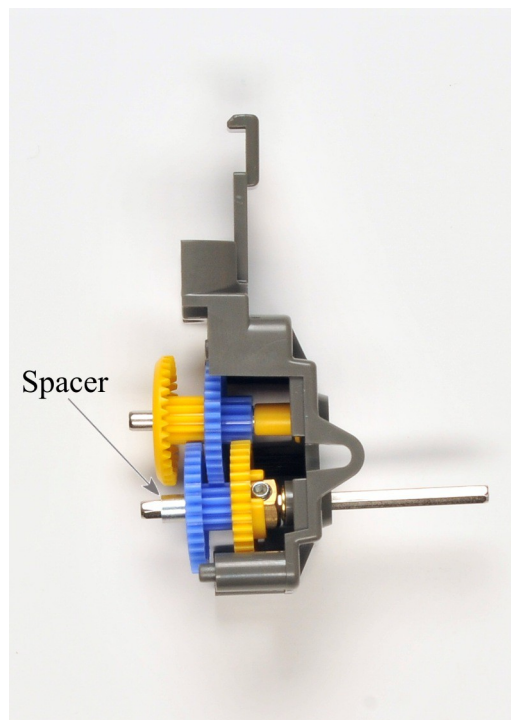

*Figure 1.16*
10. Insert a yellow final gear onto the hex shaft such that the hub of the gear encloses the gear hub. See figure 1.16.
11. Apply a small amount of grease to both of the exposed shafts on the inside part of the gearbox housing, as shown in figure 1.16.